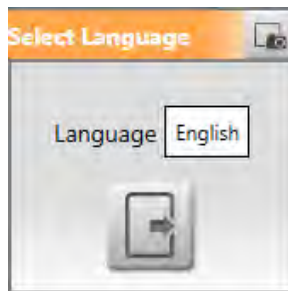

Figure 3-2 Select Language Dialog Box
2. Touch the **Language** field in the Select Language dialog box. Refer to Figure 3-2.